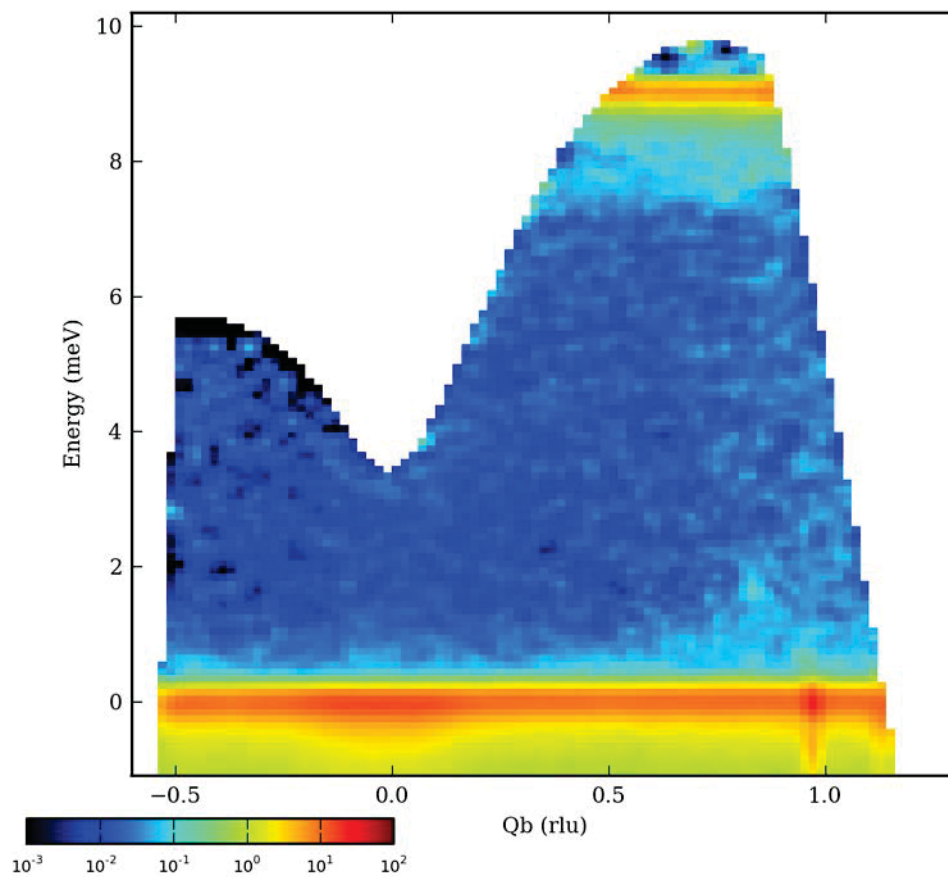

Figure 1 Result of inelastic neutron scattering measurement at 270K.
<p>To obtain the phonon dispersion curve of the sample at 360K and 270K, inelastic neutron scattering measurements were conducted by using BL01 (4D Space Access Neutron Spectrometer, 4SEASONS).</p> <p>Figure 1 shows obtained phonon dispersion at 270K. Unfortunately, clear phonon dispersion curves were not obtained owing to following two reasons.</p> <p>(1) Almost “zero” total coherent scattering length The total coherent scattering length of the sample (73Ti-27Nb) was almost zero like a null alloy (Ti-Zr), thus the clear phonon dispersion curves were not obtained.</p> <p>(2) Presence of diffuse scattering In this sample, diffuse scattering due to the precursor phenomena of displacive phase transformation was expected at wide temperature range (< 400K), this also became the obstacle for the measurements.</p>